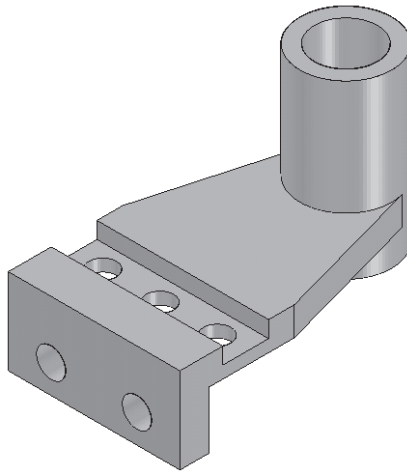

Figure 5-64 Final model for Tutorial 2
- e. Similarly, create the remaining cutouts to complete the model, refer to Figure 5-64.
1. Similarly, create the remaining two cutouts. The model, after creating all features, is shown in Figure 5-64.